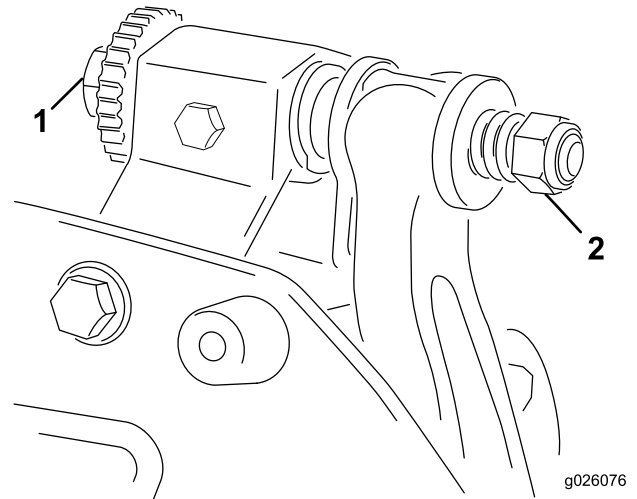

Figure 4
2. Tip the cutting unit to expose the bedknife and the reel. **Make sure the nuts or the back of the bedbar adjusting screws are not resting on the work surface (Figure 4).**